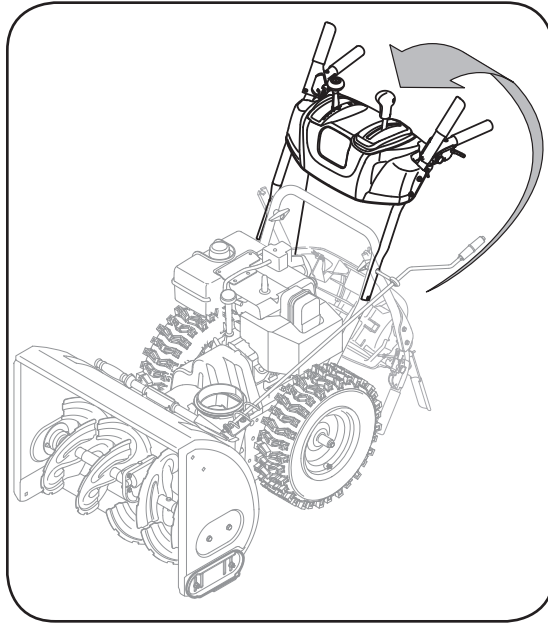

Figure 1
- Pull up and back on upper handle as shown in Figure 1. Align upper handle with the lower handle.